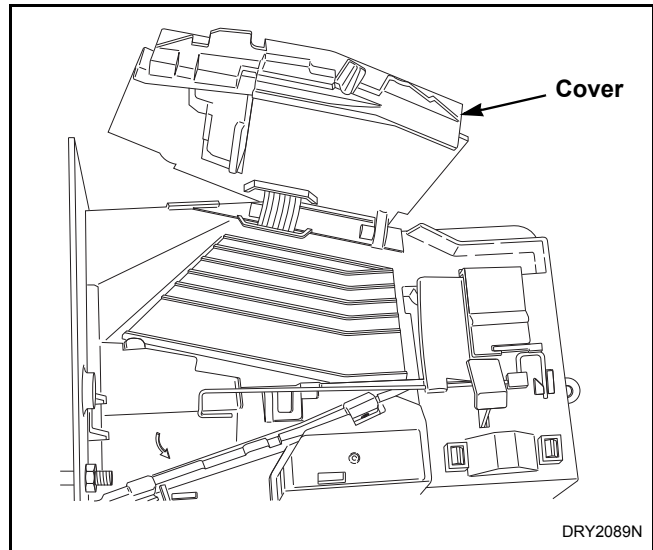

Figure 25
- (2) Open cover for coin drop. Refer to *Figure 25*.